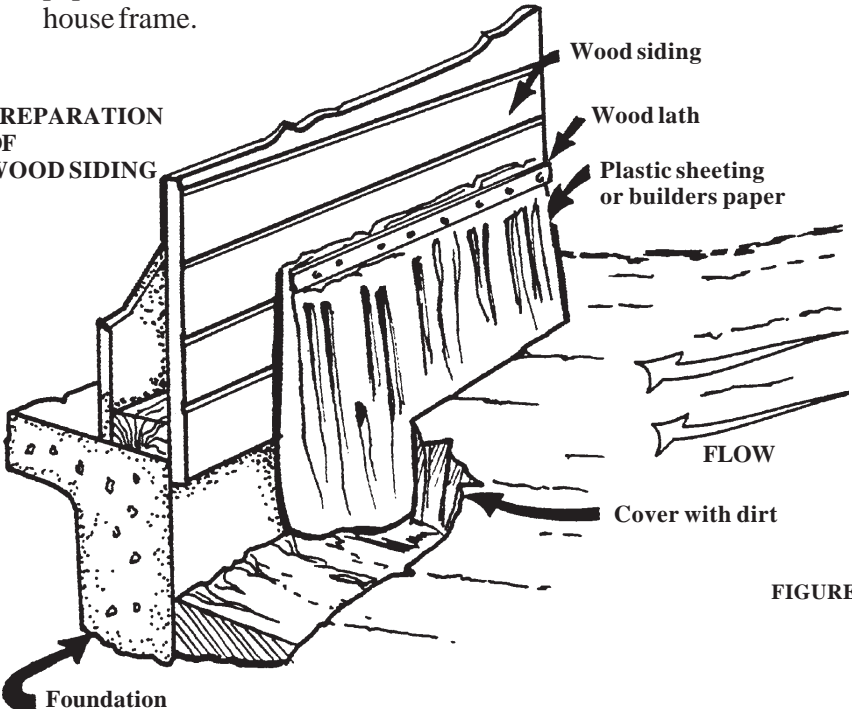

FIGURE 9
3. For temporary protection of stucco or wood-siding, fasten plastic sheeting, waterproof building paper or similar material to the side of the house with lathing or sticks and then cover the lower edge of the material with dirt (see Figure 9). Remove the sheeting or paper after the water has receded to avoid rot and mildew in the house frame.